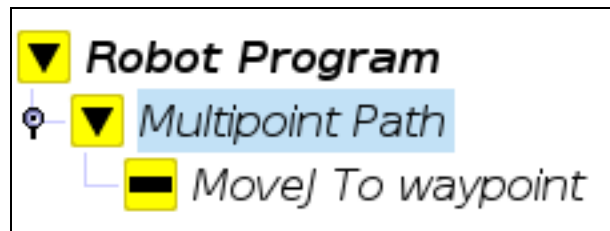

Fig. 5-8: A Multipoint Path parent node is always followed by a MoveJ command leading to the initial waypoint of the path sequence.
1. In the Robot Program tree, select MoveJ To waypoint, as shown in **Fig. 5-8**.